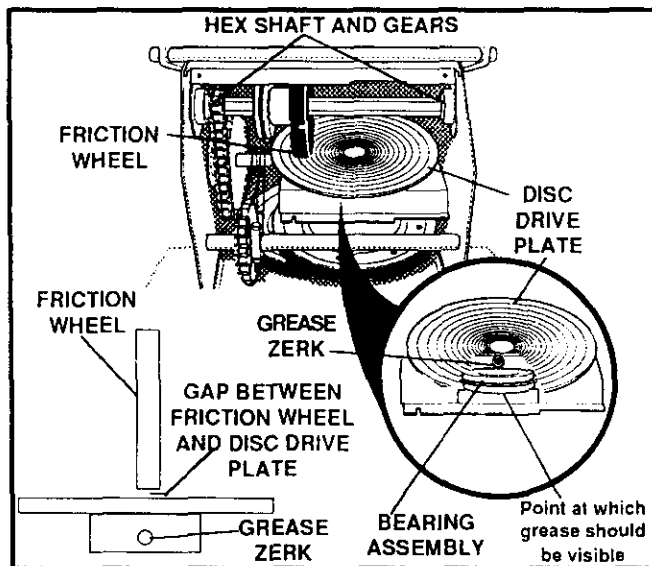

FIG. 3
- Disc Drive Plate - Using a hand grease gun, lubricate with a Hi Temp EP Moly grease, zerk located beneath the disc drive plate (See FIG. 3 inset) every 25 hours and at the end of the season and/or before storage. To grease zerk, turn disc drive plate clockwise by hand until zerk is clearly visible at front center. **DO NOT** overfill or allow grease to come in contact with the disc drive plate or friction wheel or damage will result. Fill zerk only until grease becomes visible below bearing assembly located under grease zerk. See Lubrication Chart in this section.
- Hex Shaft and Gears - Hex shaft and gears require no lubrication. All bearings and bushings are lifetime lubricated and require no maintenance (See FIG. 3).
NOTE: For storage, the hex shaft and gears should be wiped with 5W-30 motor oil to prevent rusting (See FIG. 3).